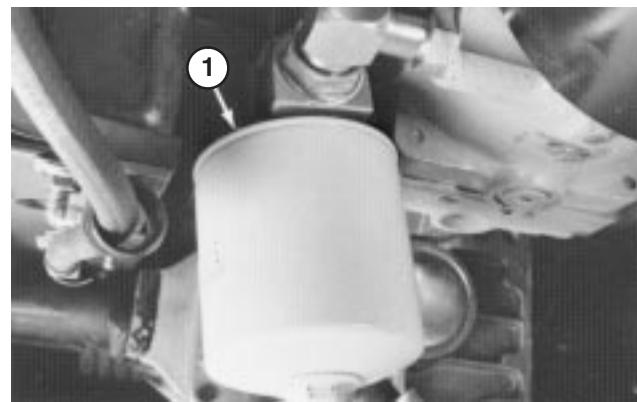

Figure 52
1. Clean area where hydraulic oil filter mounts. Remove filter from base (Fig. 52) and clean filter mounting surface.